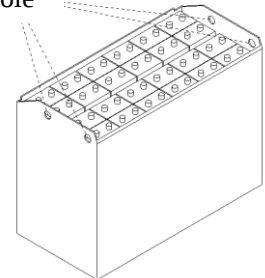

Figure 2-24
- (4) Figure 2-24 shows how to lift a battery box.